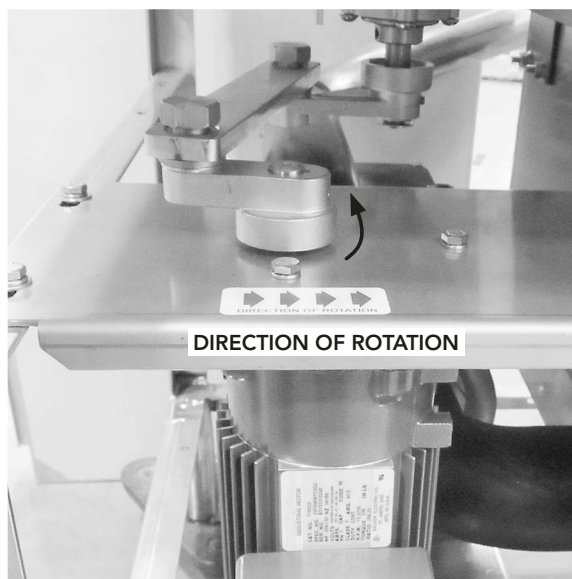

Fig. 17
2. Fig. 17 shows the drive motor rotation label on the drive plate.